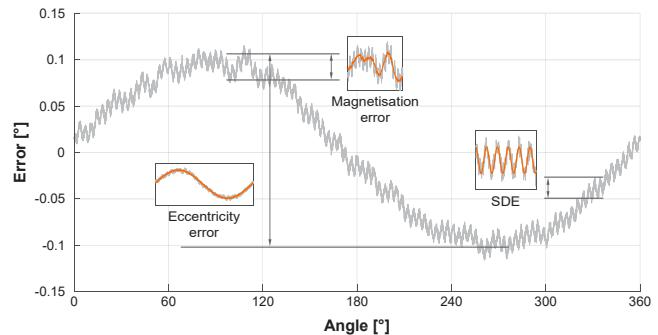

Fig. 1. Typical accuracy error plot.
The accuracy of the ring encoder measurement is influenced by **encoder-specific errors** and **installation-dependent errors**. In order to evaluate the total accuracy, each of the significant errors must be considered. Fig. 1 shows a typical accuracy error plot with marked particular influences.
**NOTE:** Figures 1 - 4 are for representation purpose only.